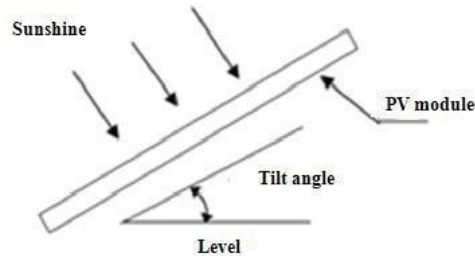

Figure2 Module tilt angle
5.3.1 The tilt angle of the modules is measured between the surface of the modules and a horizontal ground surface, the modules generate maximum power output when it faces the sun directly, as shown in figure2.